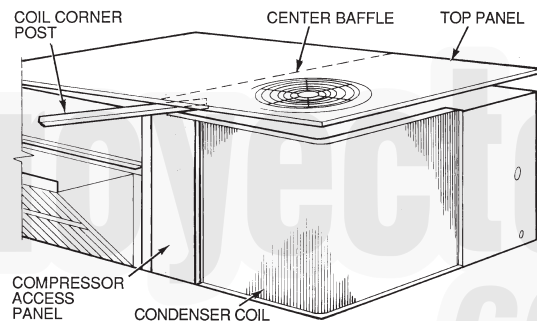

Fig. 13 – Propping Up Top Panel
5. Hold the top pan open by placing the coil corner post between the top panel and center post. See Fig. 13.